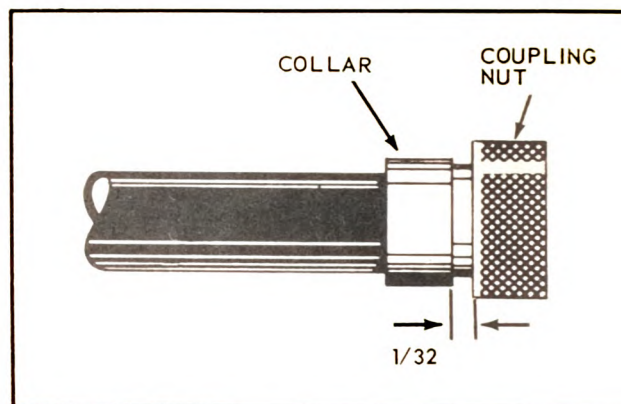

Figure 9-21. Final Position of Collar on Rubber-Covered Conduit
s. Roll rubber cover of conduit back in place, and slide conduit collar into position as shown in Figure 9-21. Temporarily insert 1/32 inch spacer between conduit collar and back of nut.